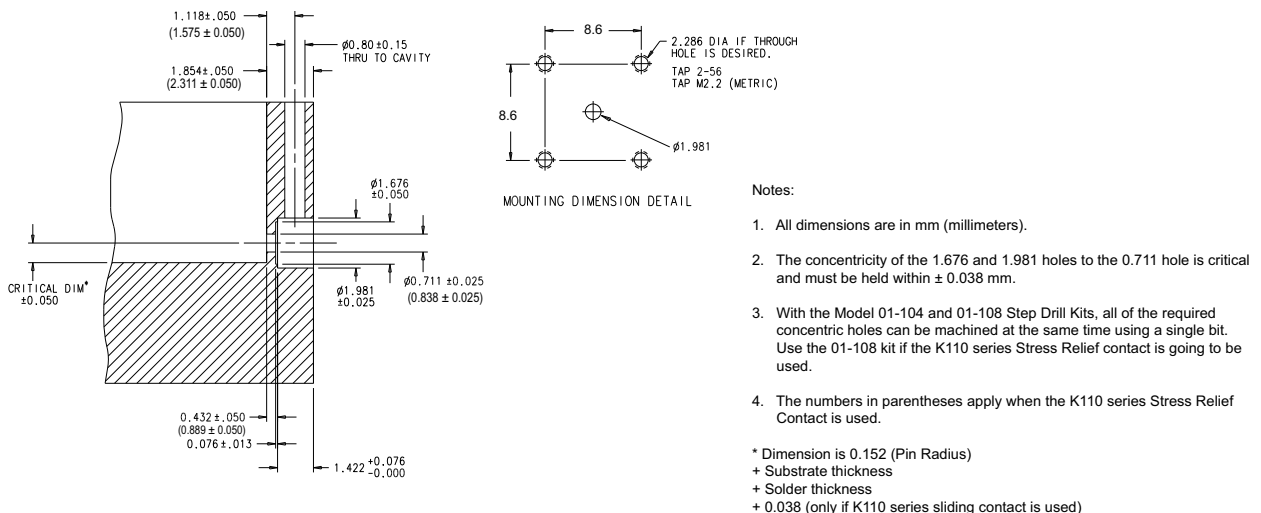

Figure 9-1. K104M-R Machining Dimensions for the Flange Mount Connector Mounting Holes
Machining dimensions for the mounting hole required for installation of the microstrip to K male flange mount connector are provided in Figure 9-1 below.
The three holes shown in Note 2 of Figure 9-1 must be concentric within ± 0.038 mm. If they are not, connector performance will be degraded. To make this required concentricity easier to achieve, custom made drill-bit kits, Models 01-104 and 01-108, are available from Anritsu.
- K104M-R: Figure 9-1 on page 9-1